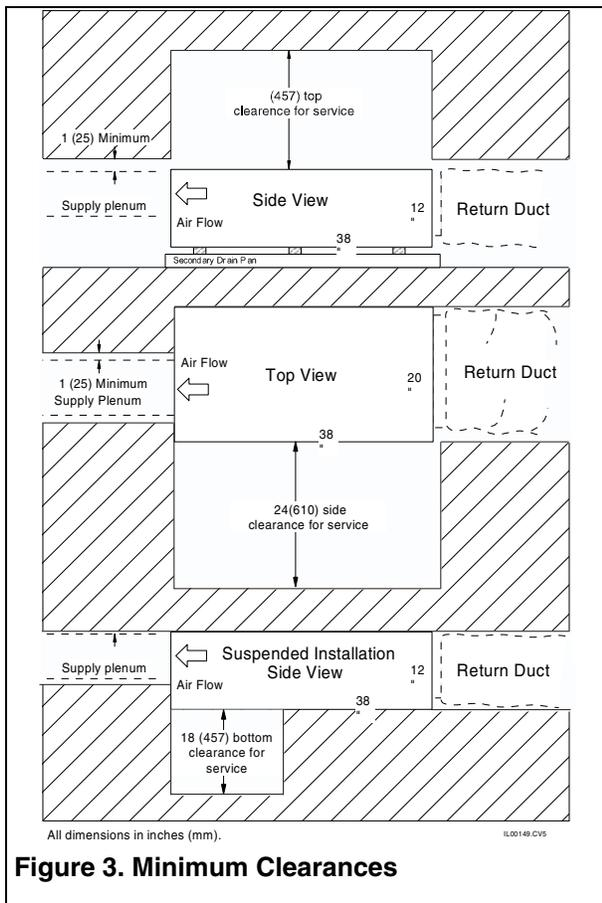

Figure 3. Minimum Clearances
- Where the unit is suspended or mounted on the wall using the mounting rails, the panel below the blower/motor assembly can be removed for servicing. In this case access to the coils must be from the side access panels. See Fig. 3.